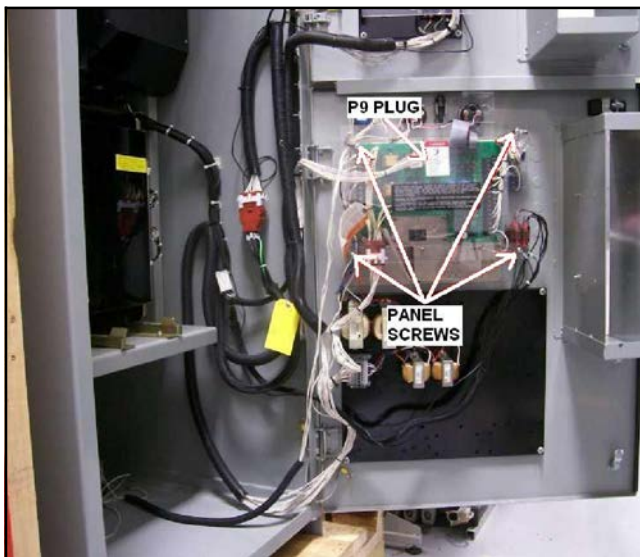

Figure 8 Plastic Panel on Bottom Door
6. Remove the plastic protective panel that covers the electronic components on the bottom door of the enclosure. See Figure 8.